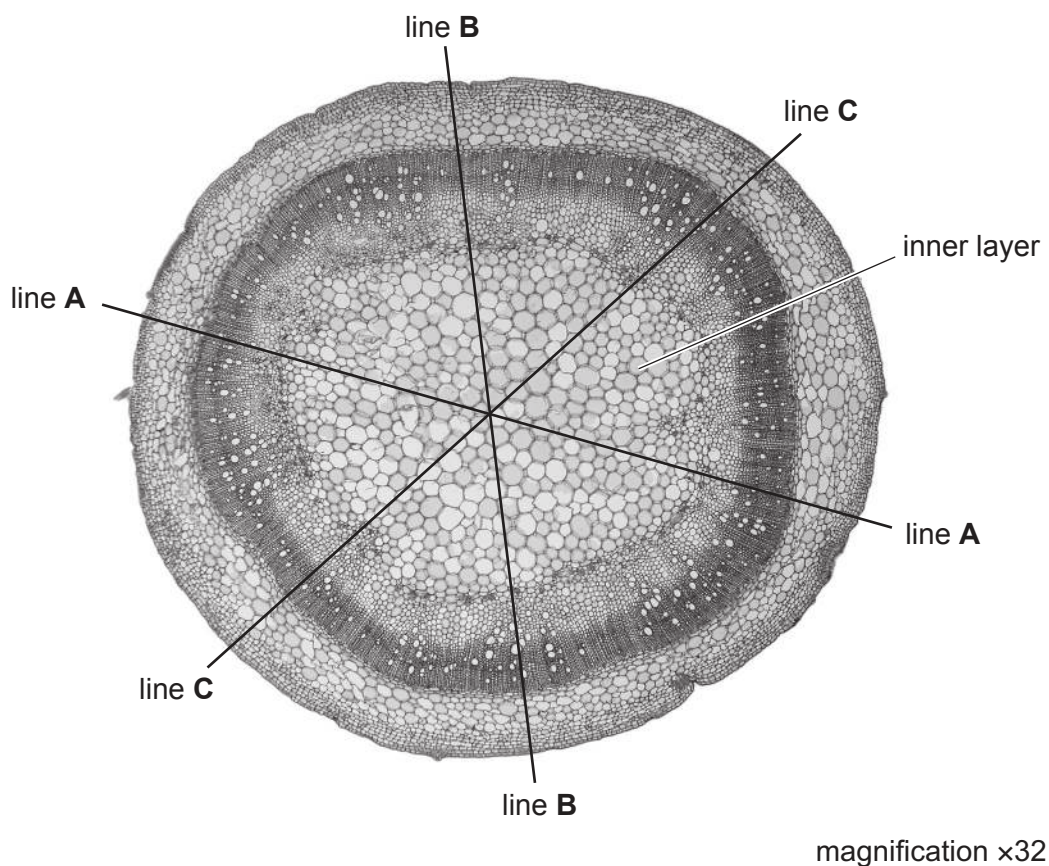
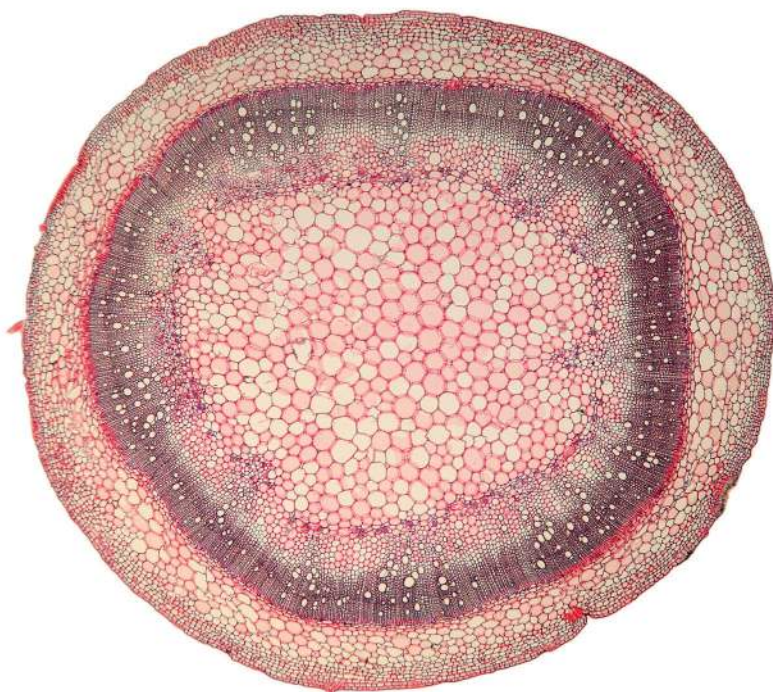

Fig. 2.2
Fig. 2.3
- (b) Fig. 2.2 is a photomicrograph of a stained transverse section through a stem of a different type of plant.
- (i) The magnification of the stem section in Fig. 2.2 is $\times 32$.
- (c) Fig. 2.3 is a photomicrograph of the same stem section that is in Fig. 2.2.
Identify the observable differences between the stem section in Fig. 2.3 and the stem section on L1.